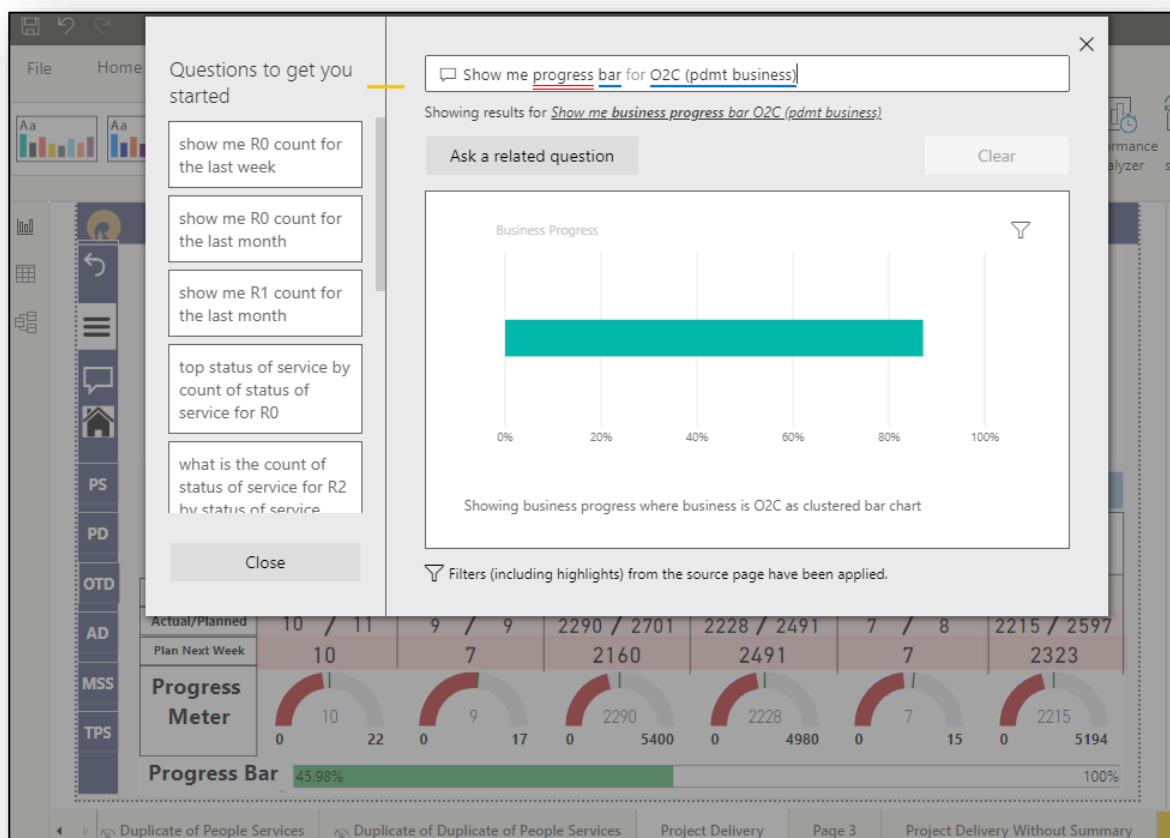

Figure 3 Q&A Tab
- iii. Q&A Button:- This helps the user to ask any question related to data to an AI powered Chat Bot. Figure 3 on next page gives the preview of the same.